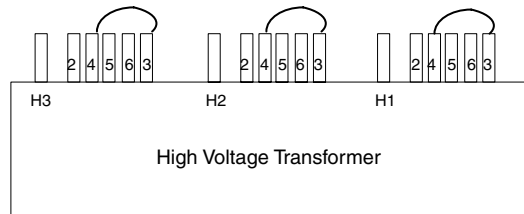

Figure 2-3 PDU Tap Positions (Rear)
- 4.) After you determine the nearest nominal line, verify the tap connections match (refer to Table 2-1 and Figure 2-3 for tap locations).